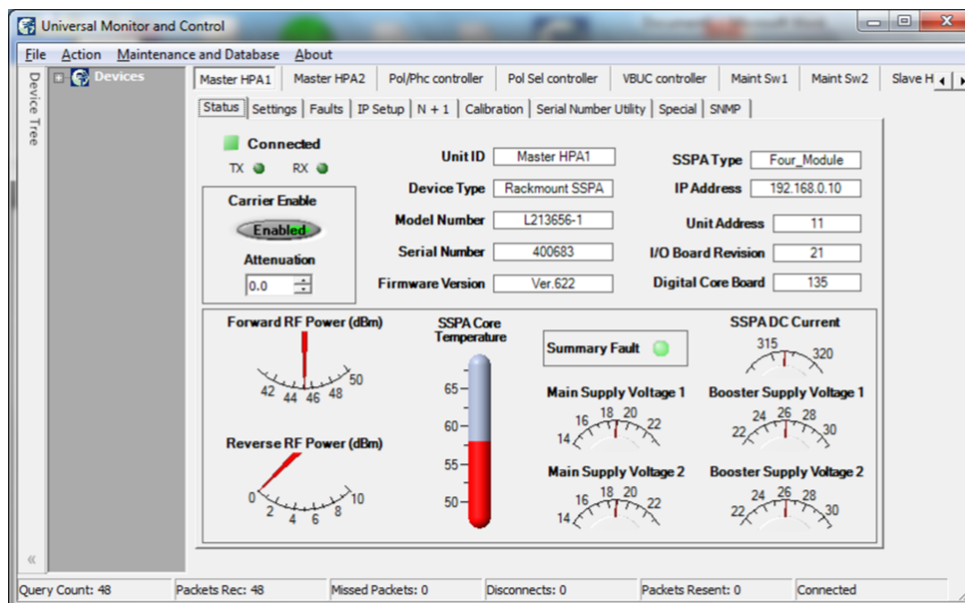

Figure 35: Status Window, Outdoor SSPA Controllers
The Status Window for the Outdoor SSPA Controllers (Controller 1, typically the Master controller) shows the operational status of the array of four (4) SSPA modules for that system. See Figure 35.